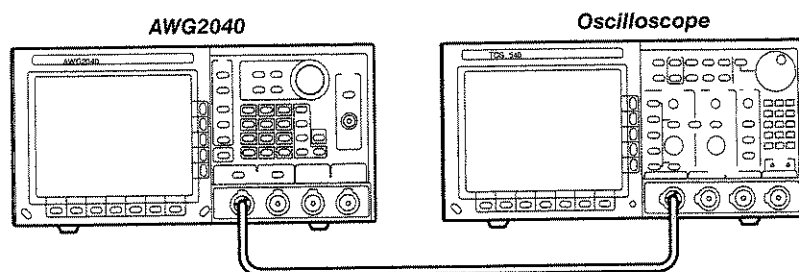

Figure E-9: Waveform Advance Mode Initial Test Hookup
- a. *Hook up the oscilloscope:* Connect the AWG2040 CH1 output connector through the coaxial cable to the CH1 vertical input connector on the oscilloscope (see Figure E-9).